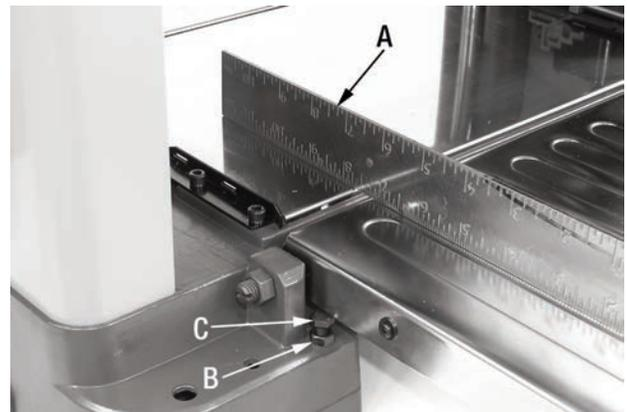

FIGURE 9
1. Place a straight edge (A) Fig.9 across the infeed table and the main table and make sure that the two tables are aligned. If the tables are not aligned, an adjustment is needed.
2. Loosen hex. nut (B) on one side of the infeed table.
3. Turn hex. bolt (C) until the infeed table is aligned with the main table.
4. Retighten hex. nut (B), repeat steps 1 to 4 on the opposite side and then proceed to verifying if the outfeed table requires adjustment. The adjustment of the outfeed table is identical to the infeed table.